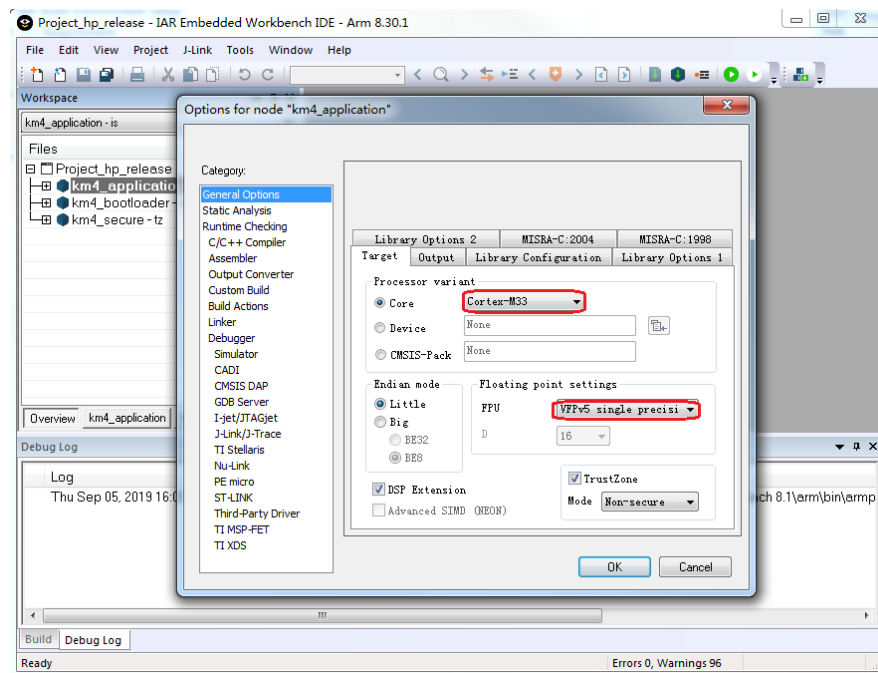

Fig 6-9 KM4 processor options
- (1) Open project\realtek\_amebaD\_va0\_example\EWARM-RELEASE\Project\_hp\_release.eww.
- (2) Refer to 6.3.1 and choose the build configurations for each project according to your application.
- (3) Click **Project > Options, General Options > Target > Processor Variant > Core**, verify the CPU configurations according to Fig 6-9.